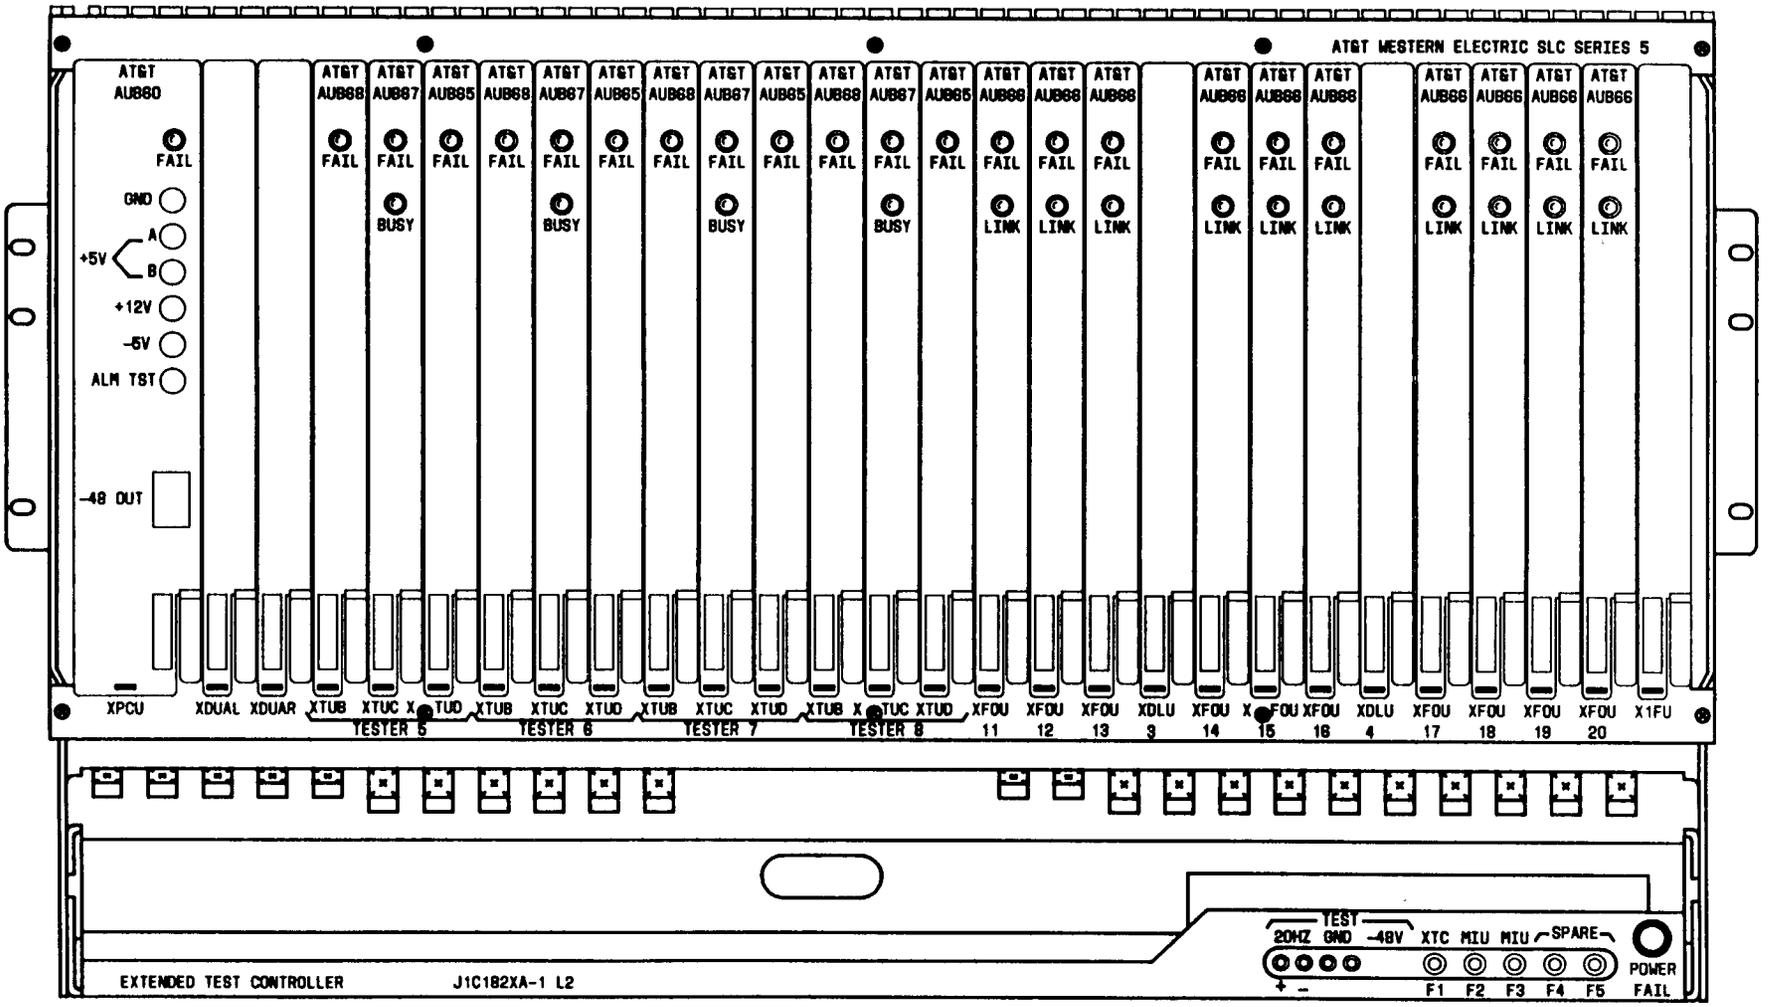

Figure 8 — XTC J1C182XA, L2 Expansion Shelf
- 2.09** The J1C182XA, L2 (Figure 8) and J1C182XA, L3 (Figure 9) expansion shelves house a maximum of 25 and 19 circuit packs, respectively. These circuit packs are listed in Table F. The baffle assembly located at the bottom of the expansion shelves contains four TEST pin jacks (+20HZ, -20HZ, GND, and -48V), two 0.5A and three 5A fuses (see Table G), and a red incandescent FAIL indicator.